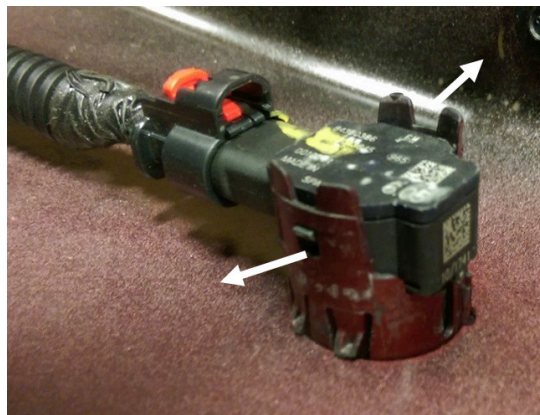

Figure 5a
7. With the OEM bumper removed from the truck, carefully remove all the sensors by pressing the clips away from the sensors and pulling the sensor out of the housing. Remove the sensor housings and note their location in the OEM bumper so you can install them into the same location on the Fab Fours bumper. (Figure 5a-b)